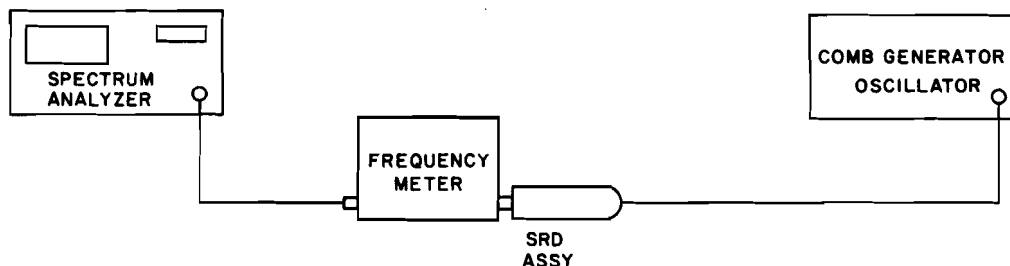

Figure 4-5. Frequency Accuracy with Frequency Meter Test Set-Up
7. Insert the frequency meter (item 11, Table 4-2) in the test set-up as shown in Figure 4-5.